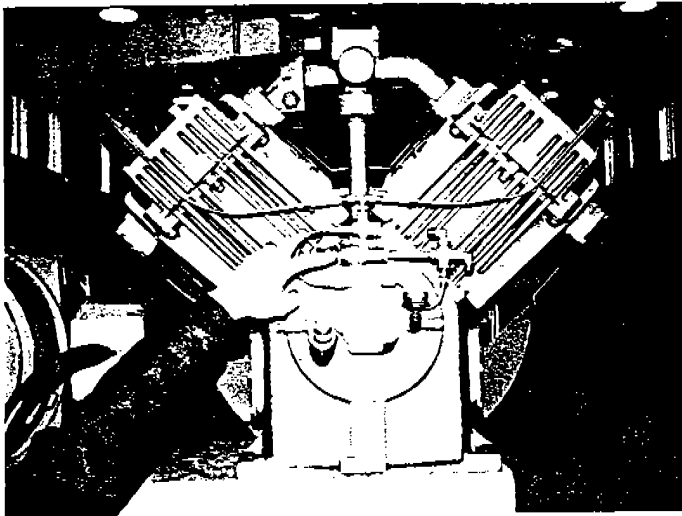

Figure 13
3. *Pilot valve or unloading mechanism not working properly.* See manual for repair. (Fig. 13)